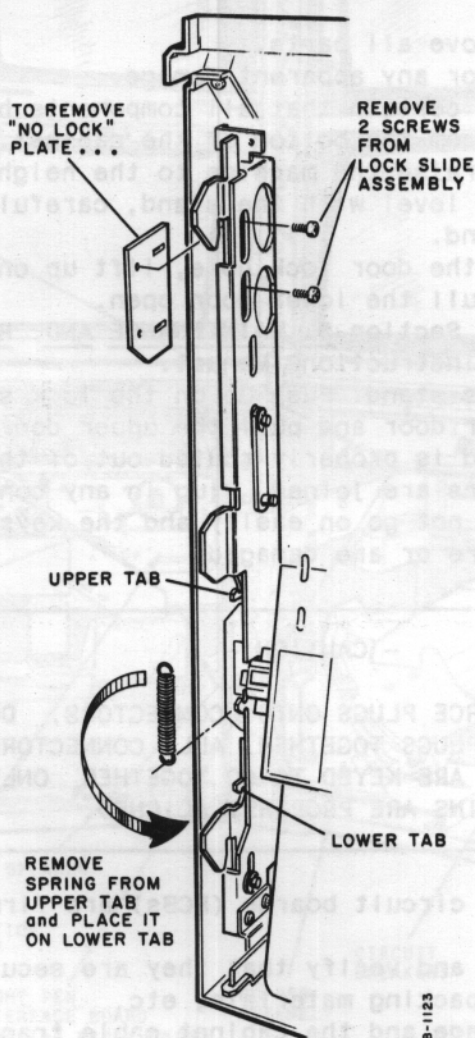

Fig. 3
16. Move the spring from the top of the door lock slide to the bottom. (Fig. 3)
17. Remove the no-lock plate. (Fig. 3)